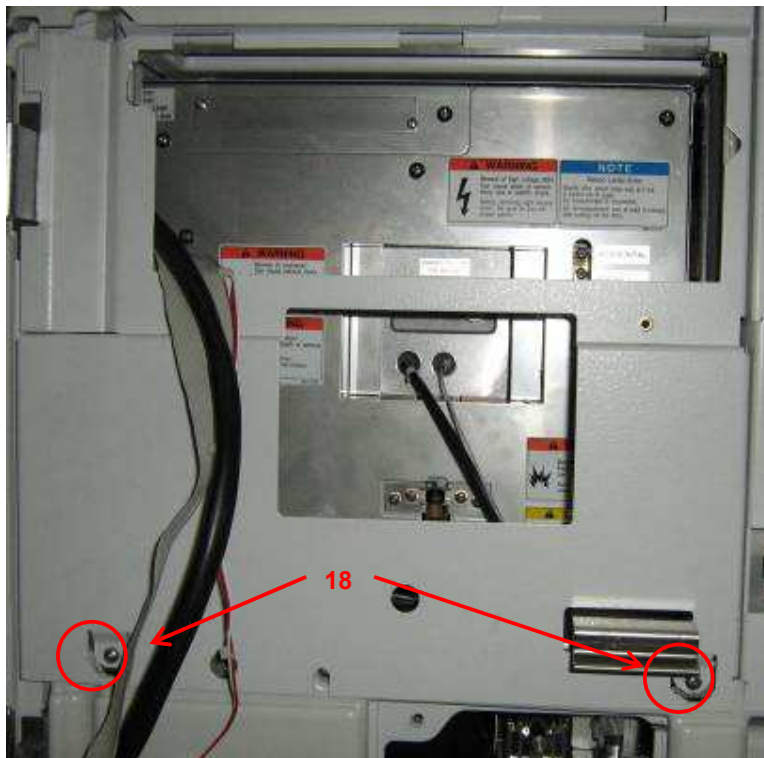

Figure 15: Putting the new front panel onto the 920 system.
16. Fit the new front moulding, corresponding to the presence of a column oven or not (item 7 or 8), to the cabinet using two screws (18) removed from the old front panel (Figure 15). Make sure that you run the 3 electrical looms for the column oven through the cut-out designed to hold the column oven (assuming you have a column oven)